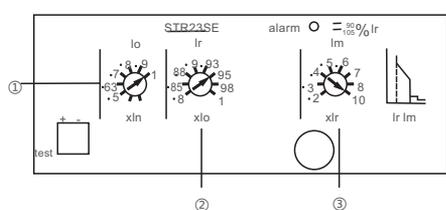

Fig 1
4.9 Circuit breaker rated current setting measurement, see Fig 1